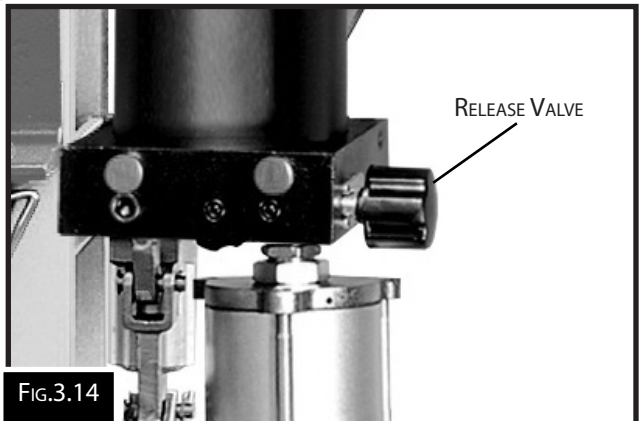

Fig.3.14
2. Open the Release Valve by turning it counter clockwise. (Fig.3.14)